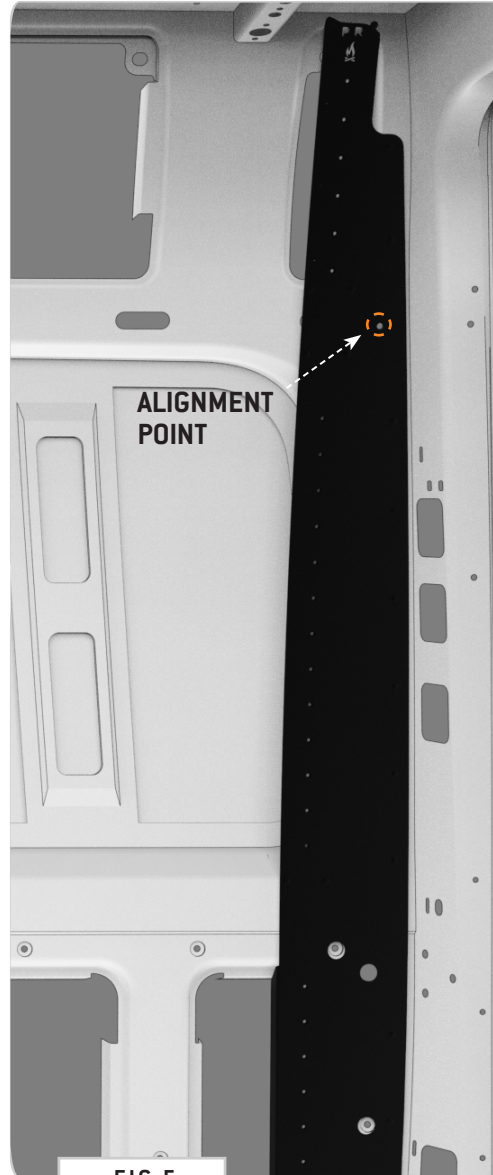

FIG 5
3.1 Align Passenger Side Rear Bracket: Align the **Passenger Side Rear Bracket** to the **Alignment Point** as shown in **FIG 5**.